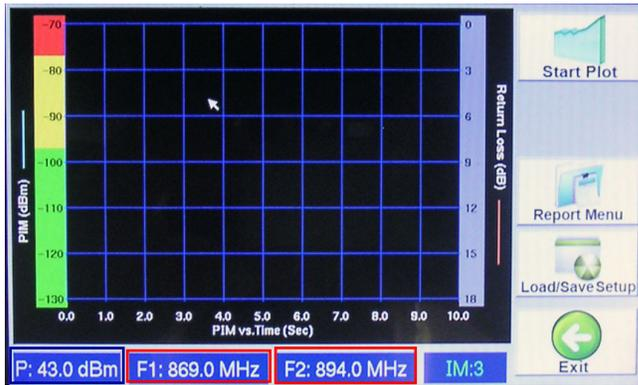

Figure 93 – Sample screen
- On the PiMPro press the PIM vs. Time  icon and verify that the values for Carrier F1 and Carrier F2 are as indicated in the table (**Table 2**) below. See **figure 93** to for reference. If the frequencies do not match **Table 2**, then press the F1 and F2 boxes (red outline on **figure 93**) on the PiMPro touch-screen.